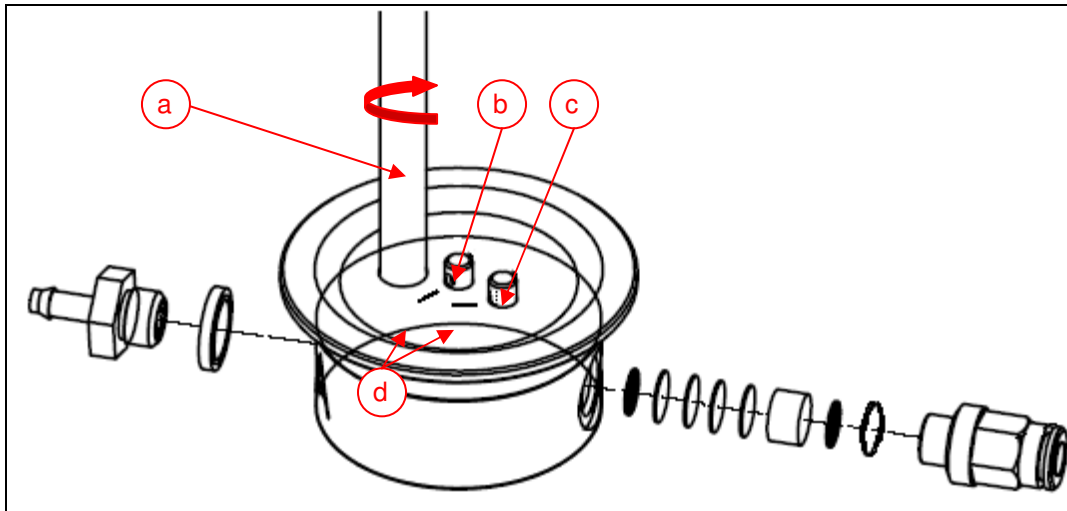

Fig. 8 - mixing chamber
- Unscrew the standpipe (fig 8 a) from the mixing chamber.
- Remove the nozzle (fig 8 b) with a universal pliers.
- At 25-70µm Tank, remove also the whirl nozzle (fig. 8 c).
- Remove the filter inside the whirl nozzle (fig. 8 c) and clean it. Put it back afterwards.
- Screw the standpipe (fig 8 a) into the mixing chamber.